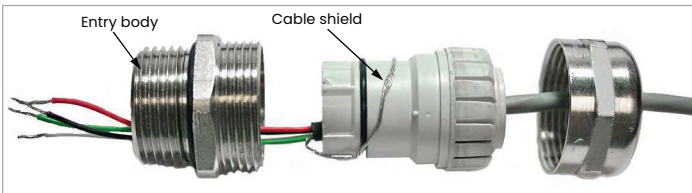

Figure 89: Proper cable gland assembly (Panametrics p/n 419-215)
- b. Route the 4-wire power/analog output cable through the cable gland as shown in *Figure 89* below.
The cable shield must be terminated in the cable gland as shown in *Figure 89* below.
- b. Route the 3-wire RS232 cable through the cable gland as shown in *Figure 89 on page 63*.
The cable shield must be terminated in the cable gland as shown in *Figure 89 on page 63*.